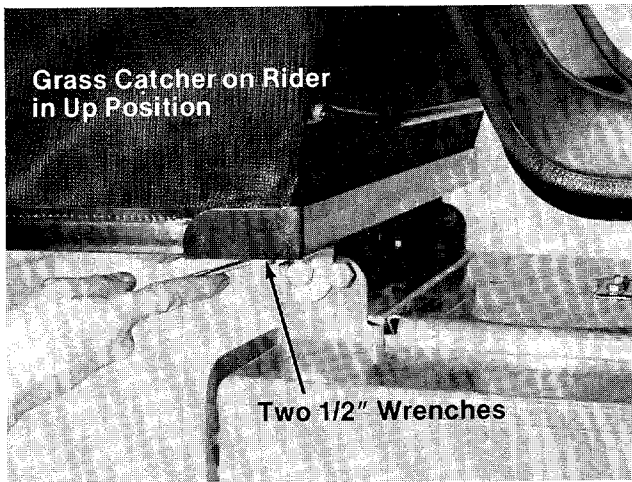

FIGURE 20.
9. Lift the grass catcher all the way up. Have someone hold grass catcher up or block up. Then with two 1/2" wrenches, tighten hinge brackets bolts securely. See figures 20 and 21.